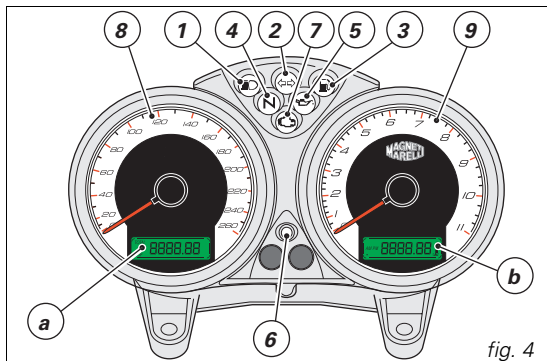

fig. 4
Instrument panel (fig. 4)
Keep the CODE CARD in a safe place. It is advisable to always carry the electronic code shown on the CODE CARD with you when using the motorcycle, in case it is necessary to override the engine lock by means of the release procedure that uses the throttle twistgrip. In the event of faults in the immobilizer system, the following procedure makes it possible to disable the "engine lock" function, which is indicated by the yellow-amber EOBd warning light (7, fig. 4).
1) Turn the key to ON and fully open throttle. Keep it open. The EOBD warning light (7, fig. 4) goes off after the pre-set time of 8 seconds.
4) Count a number of flashes of the EOBD (7, fig. 4) light equal to the first number of the secret code.
1) if the code is recognized, the warning light (6, fig. 4), on the instrument panel flashes briefly; the protection system has recognized the code and disables the engine lock.
2) If the warning light (6, fig. 4) or EOBD light (7, fig. 4) remain lit, the code has not been recognized. In this case, it is advisable to turn the ignition key back to OFF and then to ON again. If the engine still does not start, try using another black key.
3) If the light (6, fig. 4) keeps flashing, it means that a fault indication from the immobilizer system has been cleared (for example, by means of the release procedure using the throttle). Turn the key to OFF and back to ON; the immobilizer light should return to its normal state (see point 1).